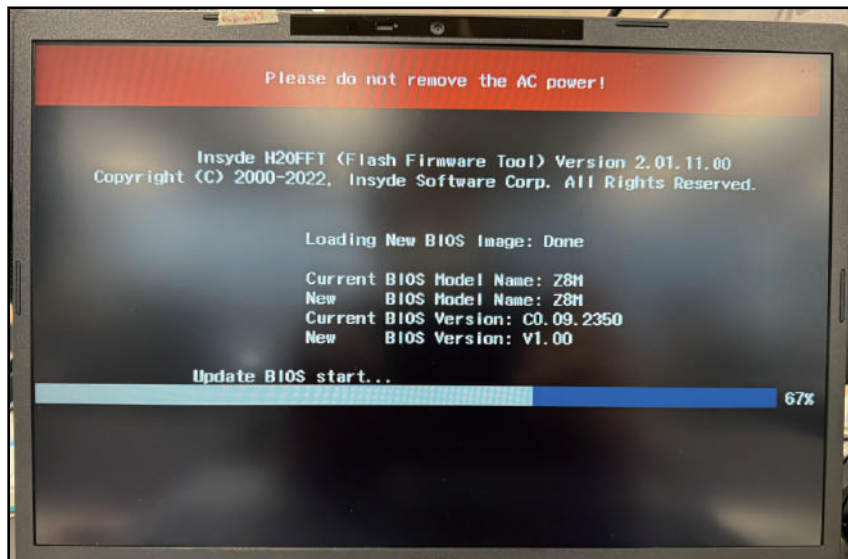

Figure 2-23. Flash Process
5. The system will restart automatically and display the Flash BIOS Process as shown in Figure 2-23.